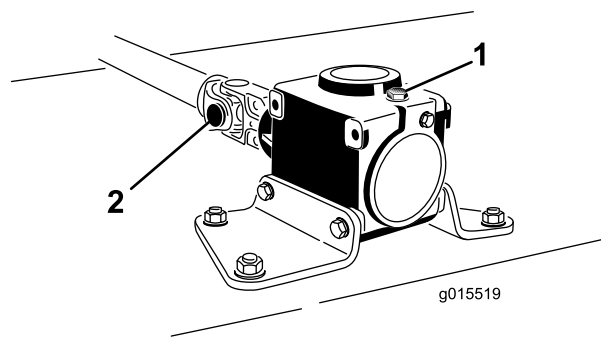

Figure 3
- Remove the roll pin from the end yoke and the gearbox shaft (Figure 3). Retain the roll pin for re-use.
- Loosen the 2 capscrews and lock nuts (Figure 3).